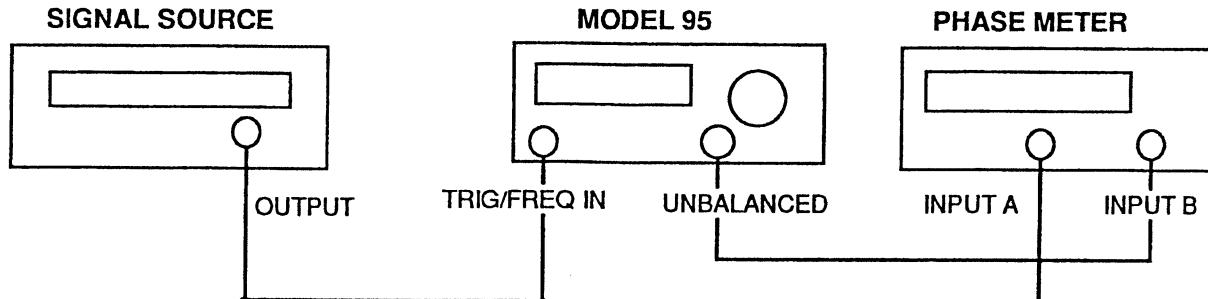

Figure 3-9. External Lock Measurement
2. Connect the Model 95 and test equipment as shown in figure 3-9, except leave the signal source disconnected.